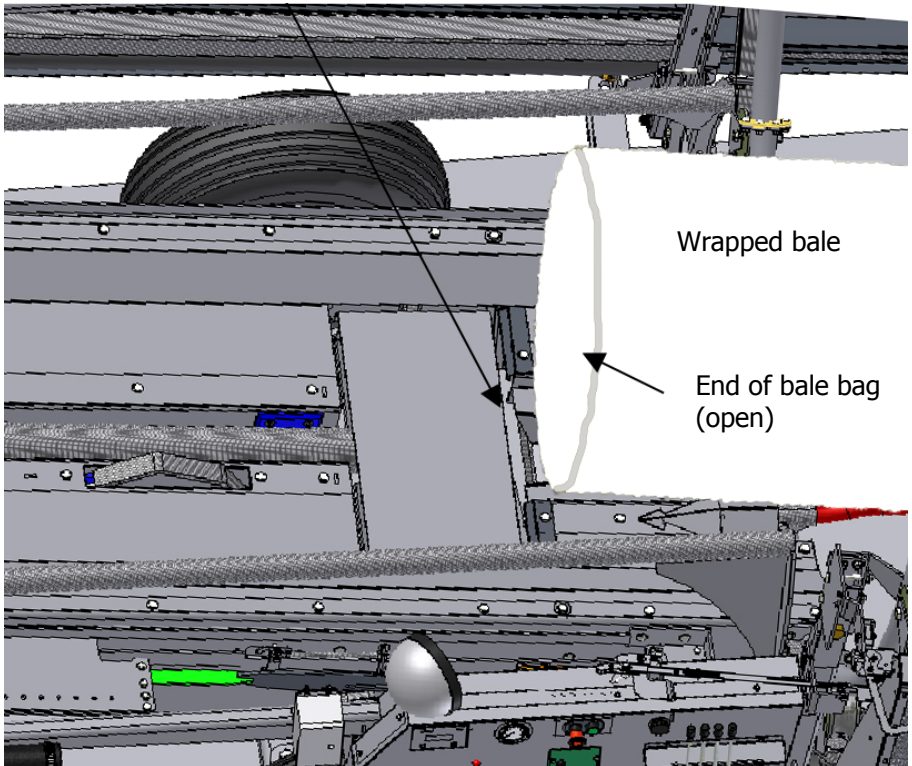

Figure 21 – Last bale position
- Put the last bale to be wrapped in the bale bag and put it on the wrapper. The end of the bag should be facing the rear of the wrapper (Figure 21). When the cycle is complete the bale should be at the end of the X-tractor push off cylinder.